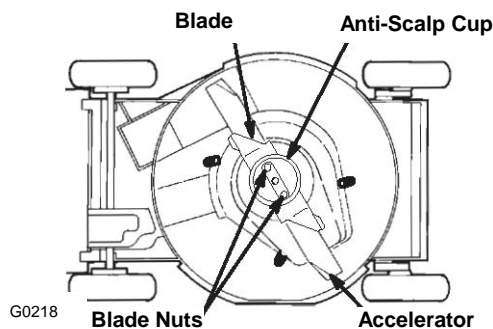

Figure 19
4. Tip the lawn mower onto its **right** side (Fig. 19 and 20.).
For Blade Brake Clutch Units: Remove the blade nuts, anti-scalp cup, accelerator, and the blade (Fig. 19)